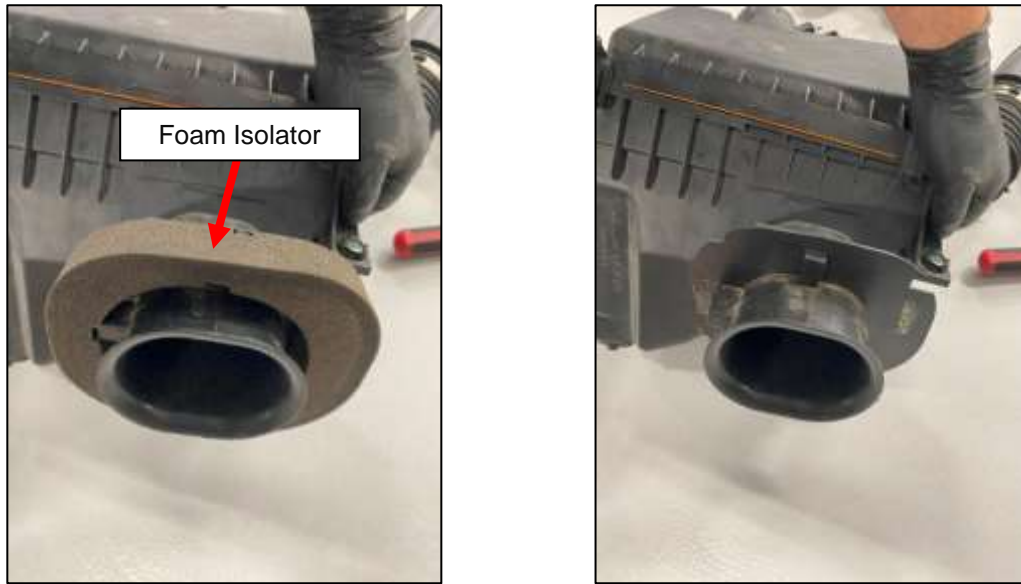

Figure 18
28. Locate the OE Airbox. Remove the Foam Isolator from the flanged section of the Airbox. *Figure 18.*